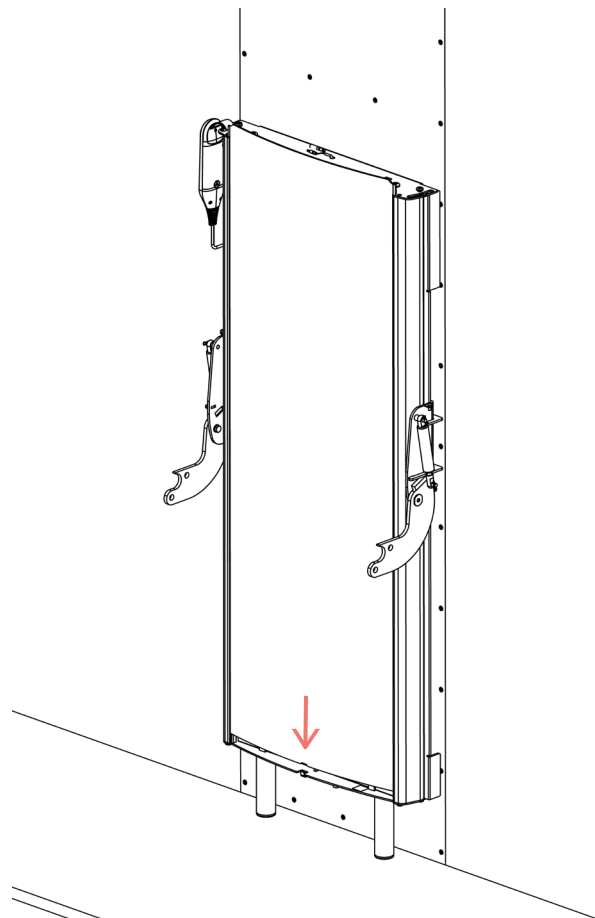

Fig 12.4b
- Starting at the bottom centre ensure that the cover is behind the hook on the bottom plate as shown in Fig 12.4b.